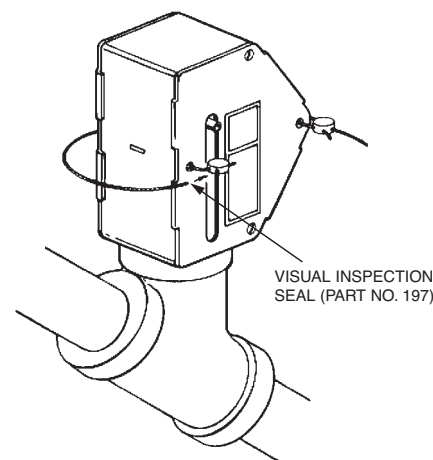

FIGURE 1
8. Reinstall side covers to gas valve housing. Make certain roll pin is positioned within both sides of the valve housing slot. Connect visual inspection seals (Part No. 197) on ANSUL type valves. See Figure 1.